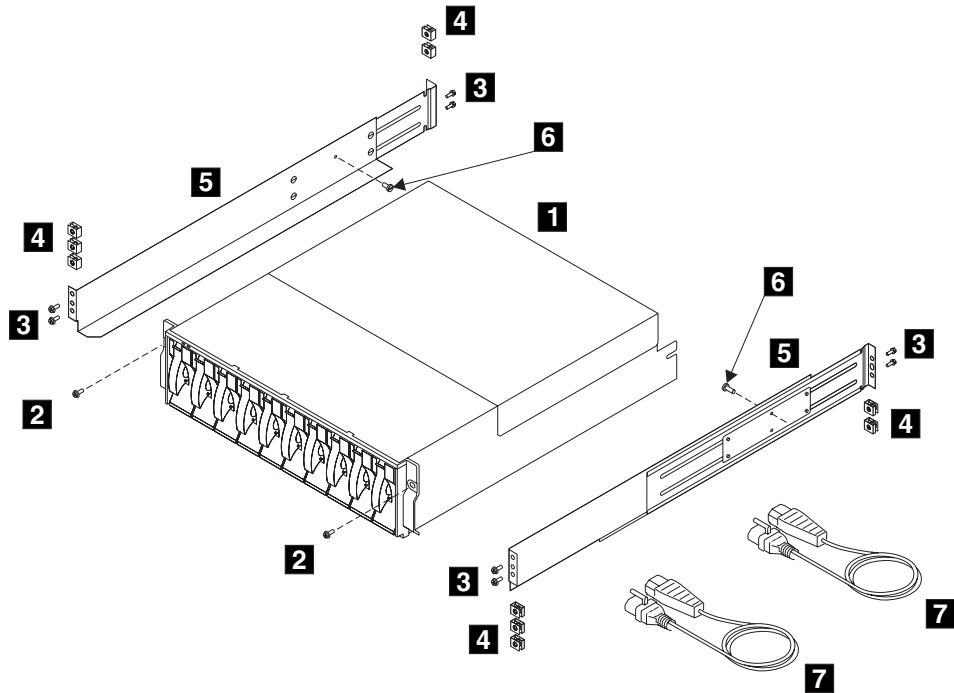

Figure 1. Items for the 2104 Model DL1
1. Refer to Figure 1.
1. Find the two support rails (**5** in Figure 1 on page 4) that are supplied with the 2104.